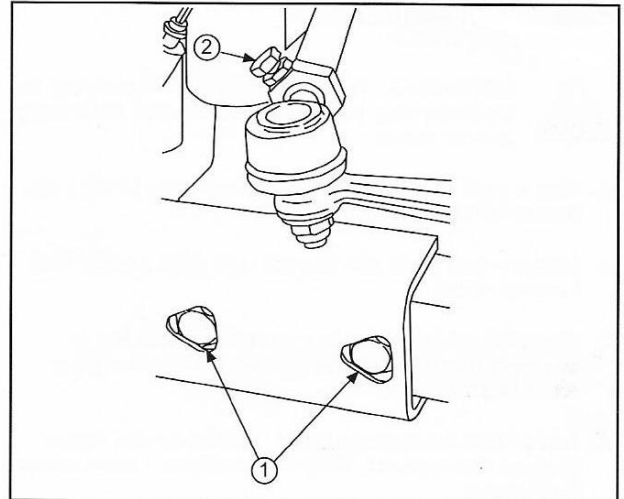

Fig. 104
2. Remove the bolts (1, Fig. 104) and nuts each side.
3. Remove the drag link peg bolts (2) each side.